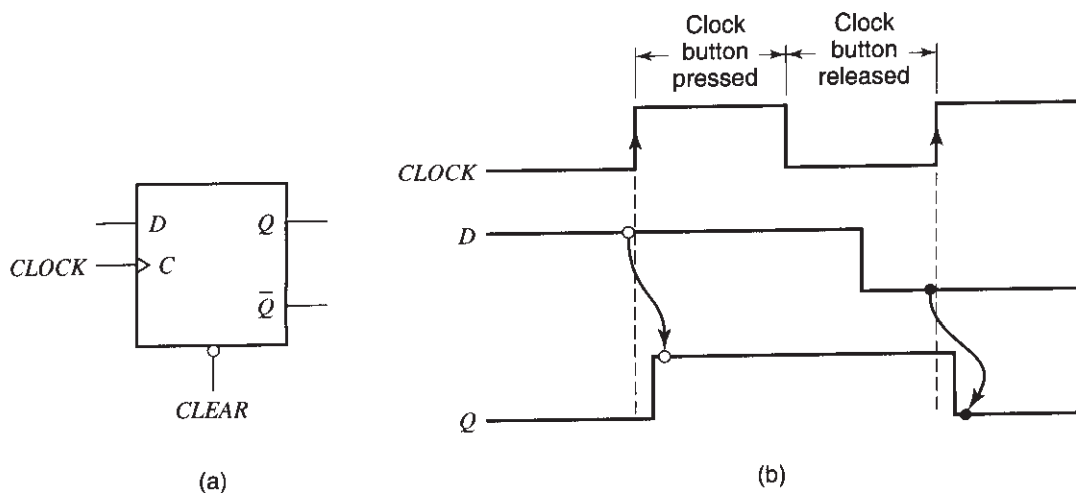
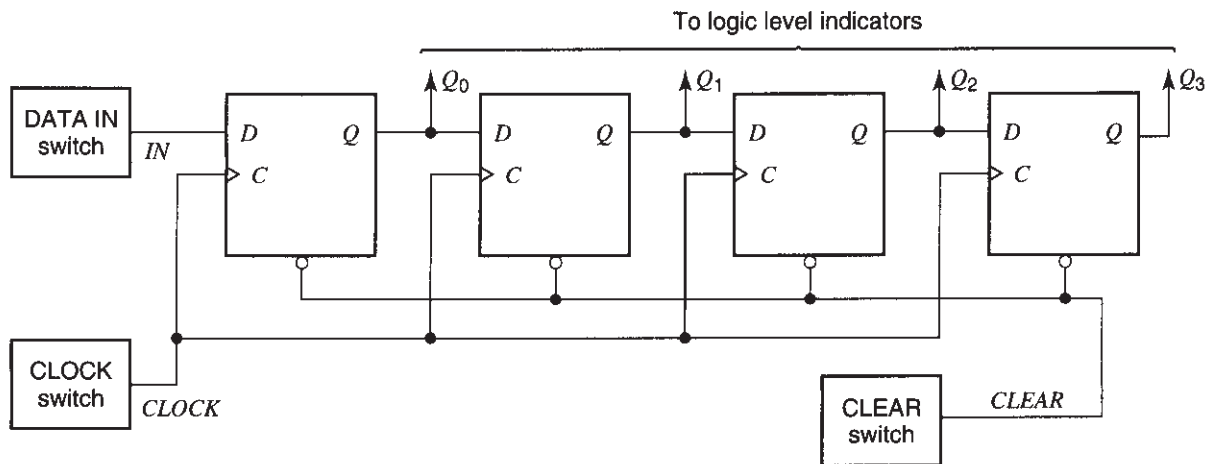

Fig. 2
Fig. 7
A *positive-edge-triggered D flip-flop* is shown in Fig. 2(a). Assume first that the *CLEAR* signal is high. Then the flip-flop has the following property: *Data at the input, D, is transferred to the output, Q, when the clock signal makes the transition from low to high.* That is, if the input *D* is steady at a logic 1 when the clock goes to high, the input logic 1 is transferred to the output *Q*; if, instead, the input is 0 when the clock goes to high, this 0 is transferred to the output. The data is held at the output until the next low-to-high clock transition. These properties are illustrated in Fig. 2(b). In this figure, we also indicate the fact that the new output appears after a very small delay (typically in the tens of ns). Since the input data are transferred to the output when the clock goes from low to high, this is called a *positive-edge-triggered D flip-flop*. For correct operation of this flip-flop, the data at *D* must be steady before the clock low-to-high transition takes place, at least for the minimum time specified by the flip-flop manufacturer (e.g., for 20 ns).
10. Consider the four-stage shift register in Fig. 7, but do not build it yet. Assume that all outputs are cleared and then a 1 is placed at the input IN . Assume that the clock button is pressed and released *once*. What will the values of Q_0 , Q_1 , Q_2 , and Q_3 become? [Hint: When the clock goes from low to high, each flip-flop transfers to its Q the value that existed at its D just before the clock transition; see Fig. 2(b).]
11. Now build the circuit of Fig. 7. All four D flip-flops needed can be found inside the same 74LS175 chip, the pin assignment for which was given in Fig. 4. It will help if, before starting to build the circuit, you mark Fig. 7 with the appropriate pin numbers from Fig. 4. Be sure to connect the ground and supply pins. If no logic level indicators are provided on your breadboard, use four indicators of the type shown in Fig. 5.
19. Lower the frequency of the signal to 1 Hz. *Disconnect the clock switch circuit from the input of the shift register of Fig. 7, and connect instead your function generator output to it, as shown in Fig. 8.* The LED at the function generator output should be lighting up 1 time per second.